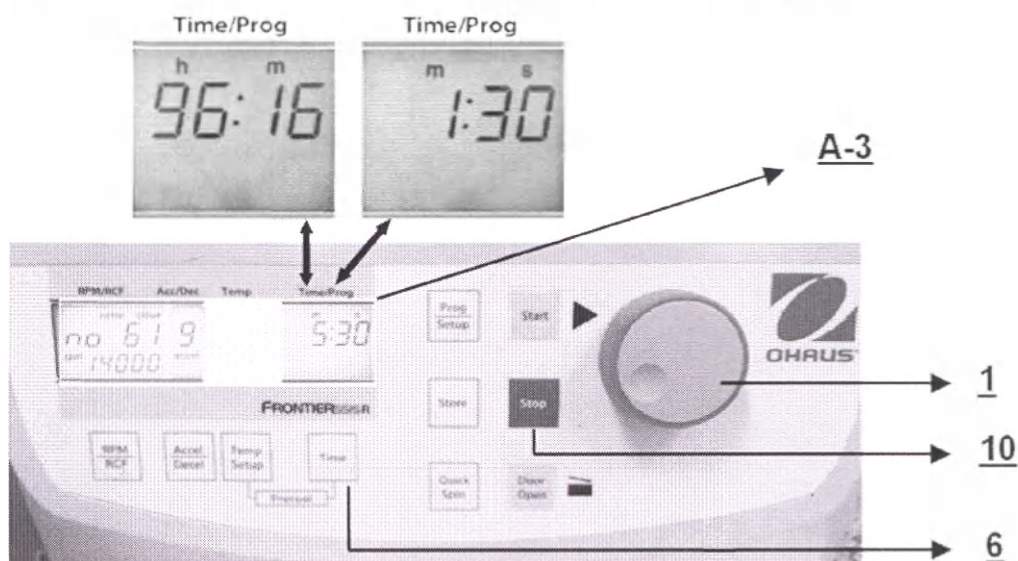

Fig. 17
3. If the cont subrange is chosen, the started centrifuge can be stopped only by pressing the key **Stop** (10) (see Fig. 17).
The time left to centrifugation finish is displayed at all times. (See Fig. 17).